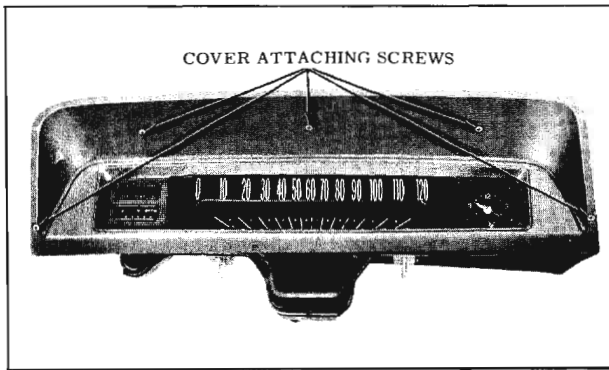

Fig. 14-143 Instrument Cluster Cover
1. Remove the 5 instrument cluster cover attaching screws. (Fig. 14-143)